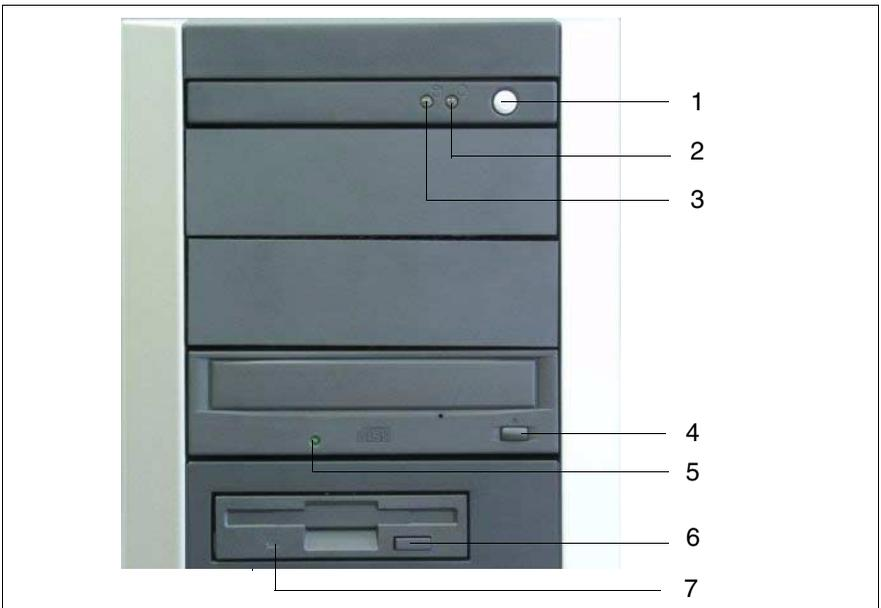
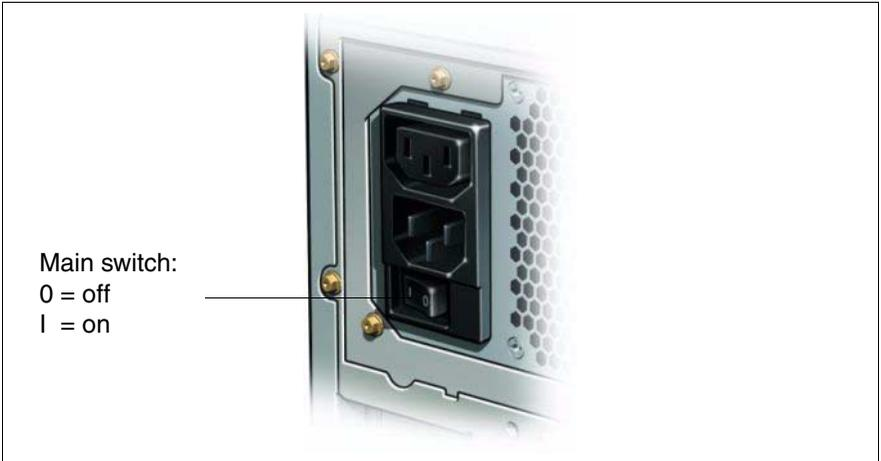

Figure 4: The front: operating and indicator elements
Figure 5: Main switch
The ON/OFF button does not disconnect the server from the mains voltage. To completely disconnect it from the mains voltage, you must switch OFF the main switch (if available on the rear ; see figure 4 on page 31) and remove the power plug from the socket.
The ON/OFF button does not disconnect the server from the mains voltage. To completely disconnect it from the mains voltage, you must switch OFF the main switch (if available on the rear; see figure 4 on page 31) and remove the power plug from the socket.
The power-on indicator (position 2 on figure 4 on page 29) lights orange (standby mode), when the server is connected to the mains and the main switch (if available) is in the ON position (see figure 5 on page 31).
- ▶ Press the ON/OFF button (position 1 in figure 4 on page 29).
The power-on LED lights green (position 2 figure 4 on page 29).
Power-on indicator (position 2 on figure 4 on page 29) lights green.
- ▶ Press the ON/OFF button (position 1 in figure 4 on page 29) or use one of the procedures described in “Other ON/OFF possibilities” on page 33.